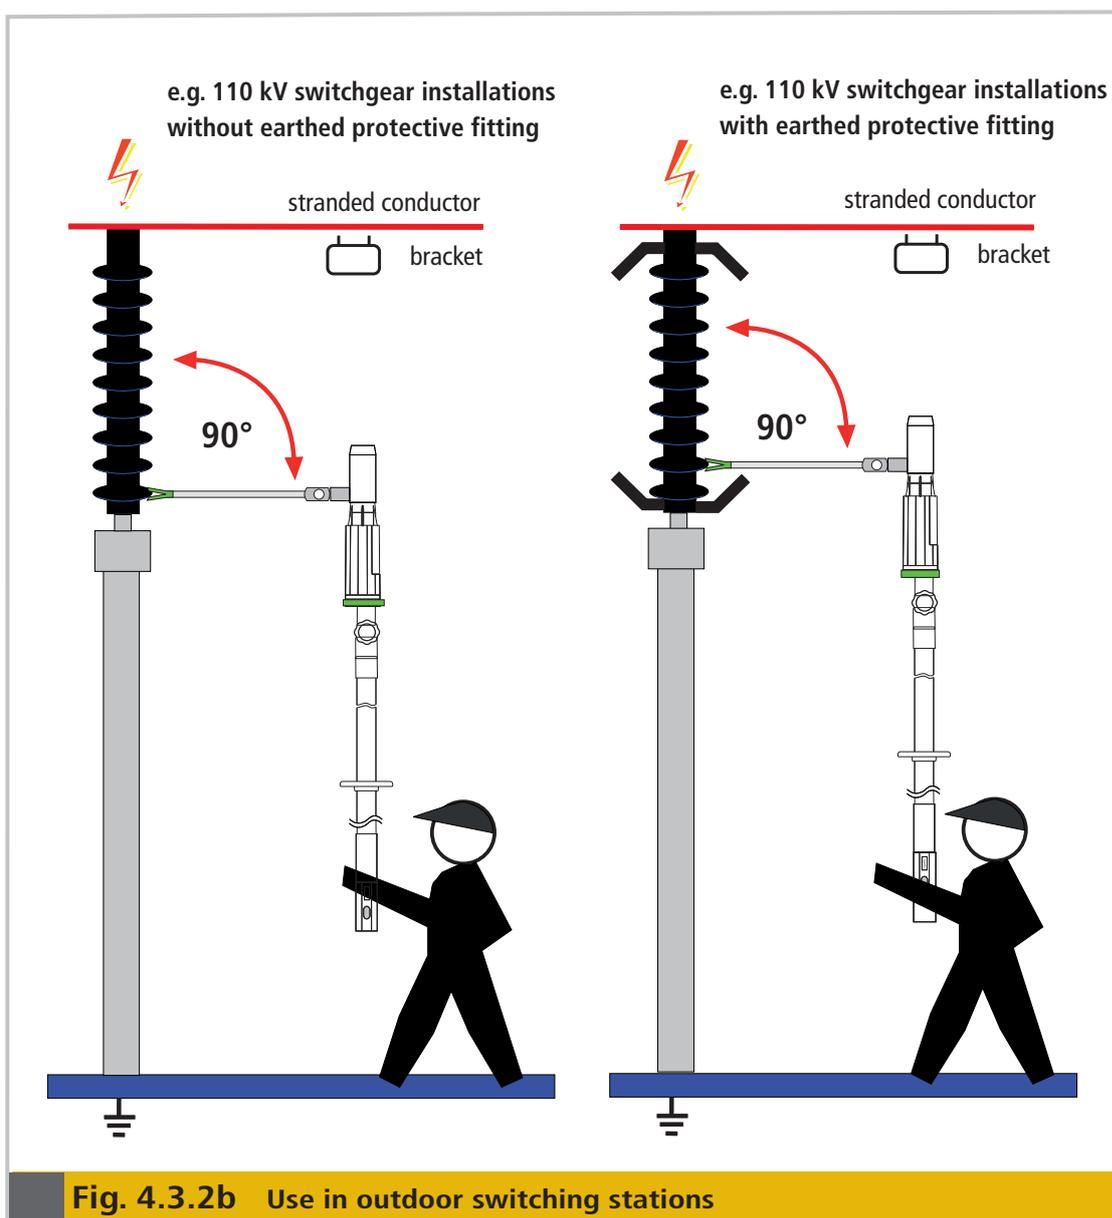

Fig. 4.3.2b Use in outdoor switching stations
- Position the green fork at the end of the unfolded extension arm directly at the first earthed insulator plate (point of contact) to verify isolation from supply voltage (see Fig. 4.3.2b, page 19).
- In case of an earthed protective fitting, position the green fork at the end of the extension arm directly at the next insulator plate above the lightning protection fitting (see Fig. 4.3.2b, page 19).